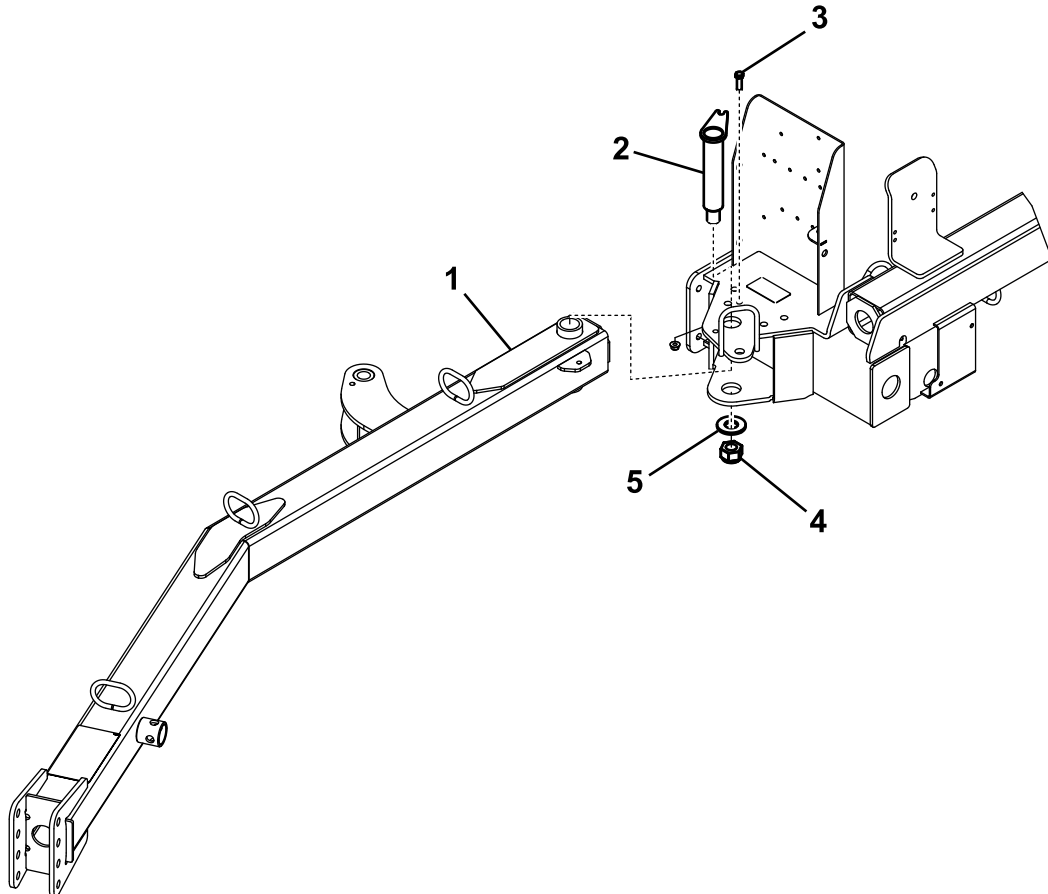

Figure 3
1. Insert the rear end of the hitch tongue between the mounting plates on the machine while aligning the mounting holes (Figure 3).
2. Insert the hitch pin through the mounting plates and the hitch tongue (Figure 3).
3. Secure the top of the hitch pin to the mounting plate with a bolt (3/8 x 1-1/4 inch) and a locknut (3/8 inch) as shown in Figure 3.
4. Secure the bottom of the hitch pin with a large washer, large nut, and square-head set screw (Figure 3).